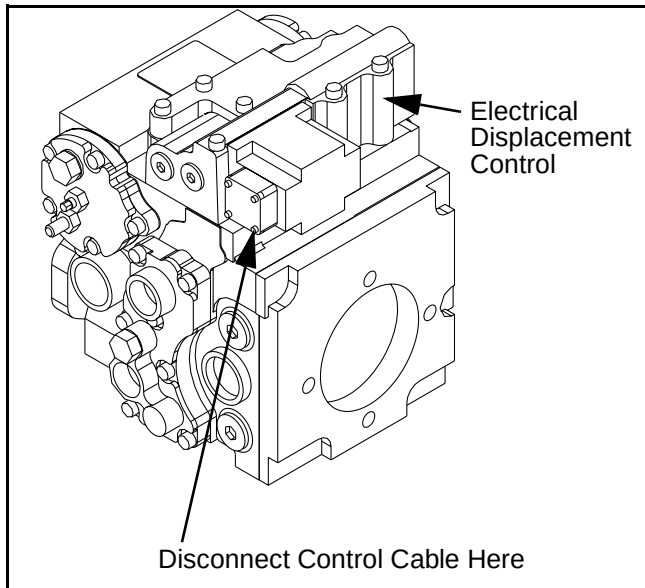

Figure 5 - 32 Electrical Displacement Control
- 9) Loosen control neutral adjustment lock nut with 17mm wrench and slowly rotate the control neutral adjustment screw clockwise, with 5mm internal hex wrench, until the pressure is equal on both gages. (Figure 5 - 28)